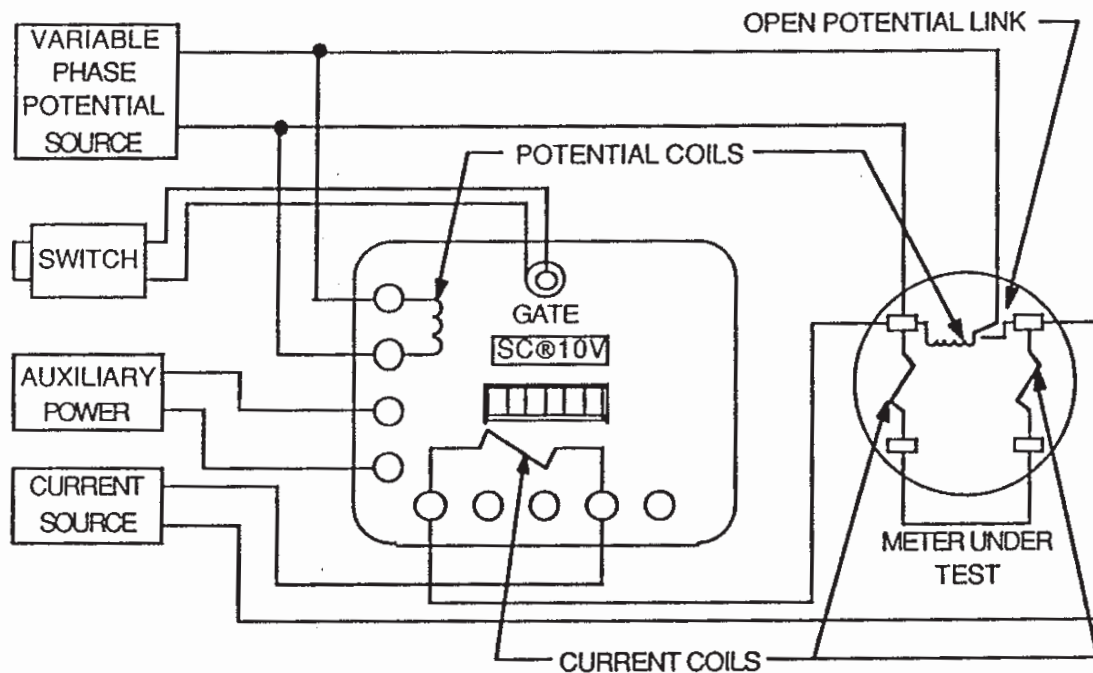

Figure 2.1
- 2.2.1 Referring to Figure 2.1 "Fundamental Meter Test Circuit," and with the current source turned off, connect the current coils of the SC[®] 10V and the current coils of the meter under test in series with the source.
2.2.2 Connect the SC[®] 10V potential terminals to a source of potential. Connect the potential coil of the meter under test directly to the same source of potential, making certain that its test link, if any, is open before this connection is made. Connect the snap switch to the gate output as it is shown in Figure 2.1.